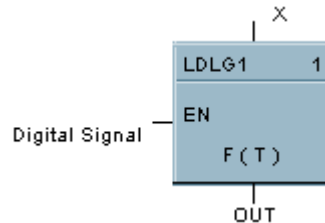

**Figure 32 HSEL Function Block Example**
Figure 32 shows a Function Block Diagram using an HOA function block in conjunction with a Device Control (DC) block and an external HOA switch for pump control. The level signal input and Compare (CMPR) function are used to determine pump On/Off demand.
Figure 32 shows a Function Block Diagram using an HSEL function block to monitor two analog inputs to activate an alarm signal tag.